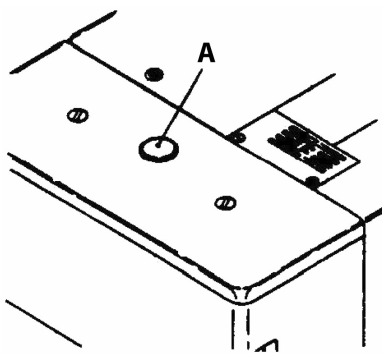

Fig. 1
Press Push-button (A) with left hand lightly until its tip can be noticed to touch inner parts. Press it lightly, turn hand wheel with right hand until the Pushbutton drops in, then press in the Pushbutton strongly and turn hand wheel. (Fig. 1)